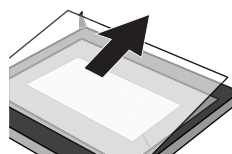

Figure 5
5. Push the glass into the position indicated by the arrow in Figure 5. Gently pull the glass out of the socket.
(Figure 5)